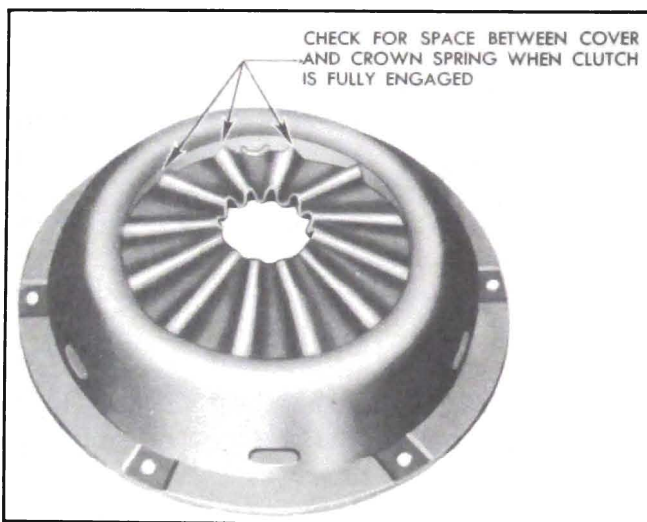
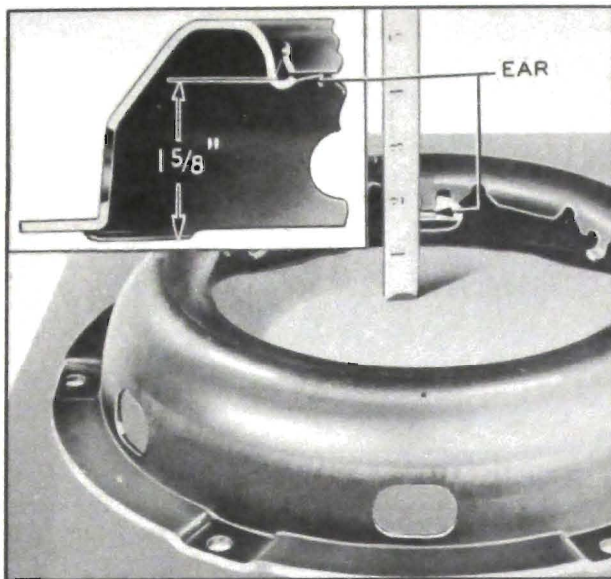

Figure 4-6—Points to Check Contact of Clutch Spring with Cover
Figure 4-7—Setting of Spring Retainer Ears on Clutch Cover
9. Have a helper hold clutch fully disengaged, then check with a feeler gauge for space between cover and clutch spring at points of contact. See figure 4-6. The clutch will not fully disengage if any one of the clutch spring contact points fails to solidly contact the cover. This condition must be corrected by removing clutch and properly setting the spring retainer ears on cover. See figure 4-7.
2. *Clutch Cover.* Inspect clutch cover for cracks or distortion. Place cover on a flat surface and measure setting of each of the six ears where spring retainers are attached. The dimension from flange surface of cover to top surface of each ear should be  $1\frac{5}{8}$  inch. See figure 4-7. If dimension is not  $1\frac{5}{8}$  inch, and cover is otherwise serviceable, the ears should be bent as required, using care to avoid cracking the metal.